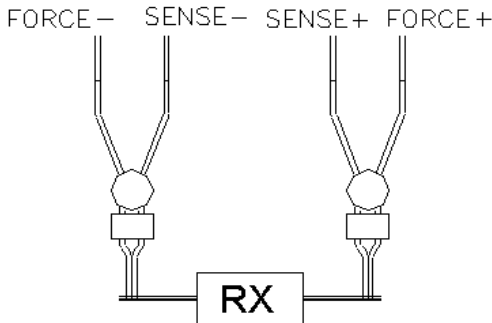

Fig. 2
- 3) Connect the 2 Kelvin clips as following Fig. 2 to measure the unknown resistance.